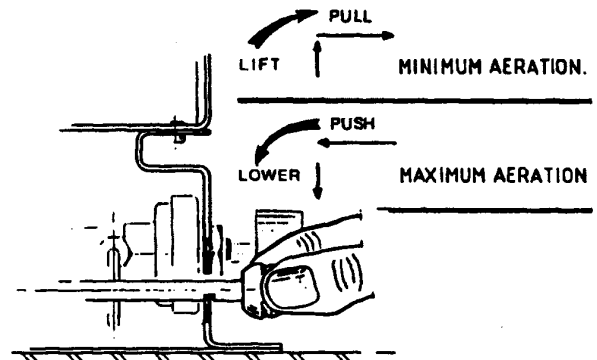

Figure 21 Aeration control
- Allow the appliance to warm up, (for at least fifteen minutes) in the fully aerated position, with the control lever pushed in to the locked position – see figure 21.